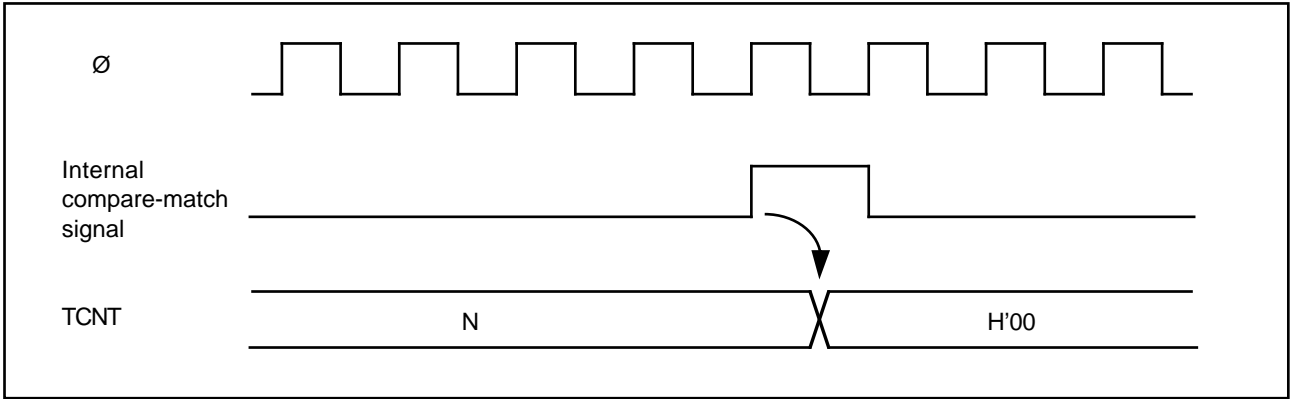

Figure 8-8. Timing of Compare-Match Clear
(4) Timing of Compare-Match Clear: Depending on the CCLR1 and CCLR0 bits in the TCR, the timer counter can be cleared when compare-match A or B occurs. Figure 8-8 shows the timing of this operation.